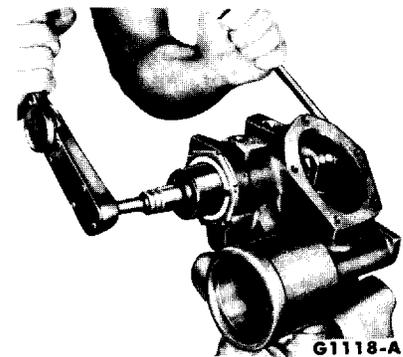

FIG. 24—Load Check
6. Turn the worm shaft all the way to the stop and back it off about one and three-quarters turns, using the tool shown in Fig. 24
2. Install the bearing adjuster and lock nut, and check worm bearing preload (Fig. 24). **Always make the final adjustment while tightening the adjuster.**